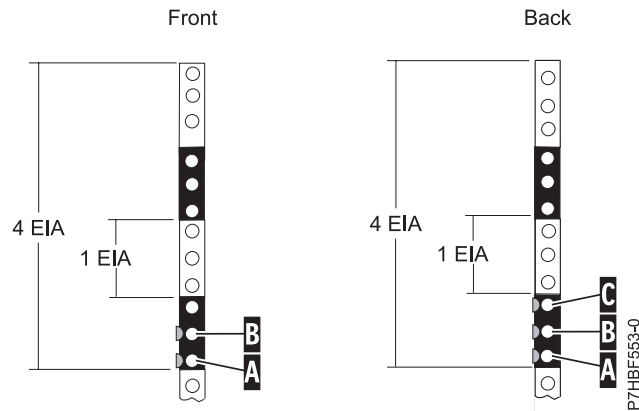

Figure 21. Marking holes on the front and rear of the rack frame
3. Begin with the hole identified by the mark **(A)**. Count up one hole and place a second mark **(B)**. Mark the rack so that the mark can also be seen from the rear of the rack, as shown in Figure 21.
6. Begin with the hole identified by the mark **(A)**. Count up one hole and place a second mark **(B)**, as shown in Figure 21.
7. Begin with the hole identified by the mark **(B)**. Count up one hole and place a third mark **(C)**, as shown in Figure 21.